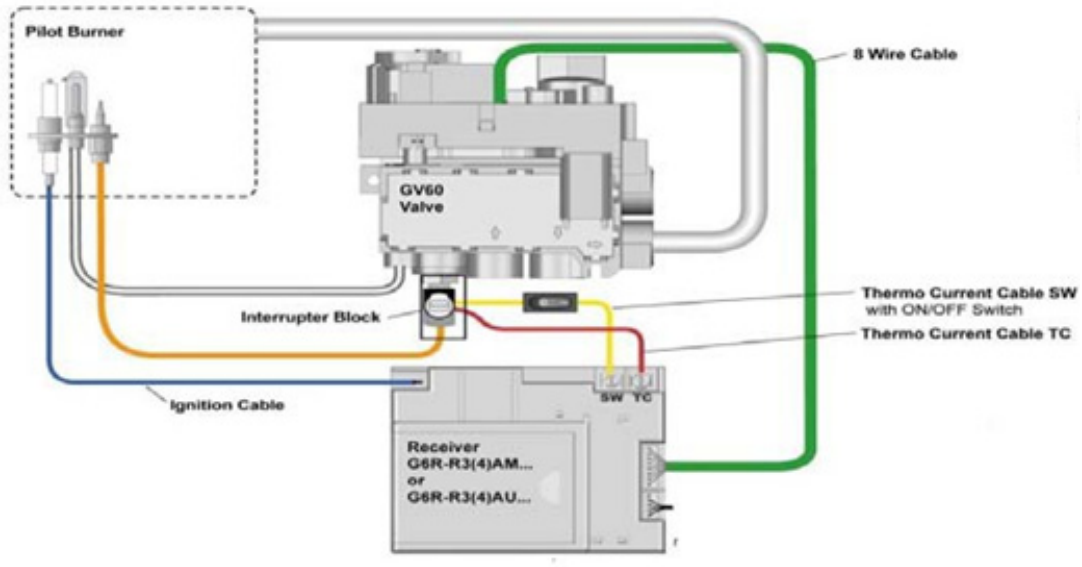

Figure 22: Valve/Receiver Wires and Interrupter Block
6. Verify that all wire connections are tight. Then, check that the interrupter block is screwed in tightly but not too tightly (tightening the interrupter block too much will break it). Refer to Figure 22 on page 96 for details.
- b) Disconnect the wire for the spark wire. Refer to Figure 22 on page 96 for details.
Perform these steps to check the thermocouple. Refer to Figure 22 on page 96 for details.